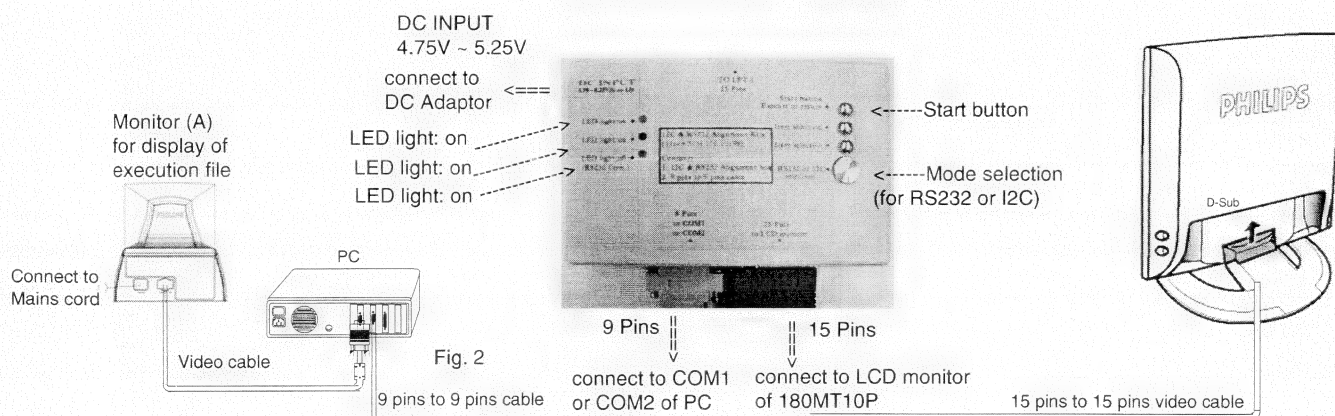

Fig. 2
1. connection of RS232 COMMUNICATION as shown in Fig. 2